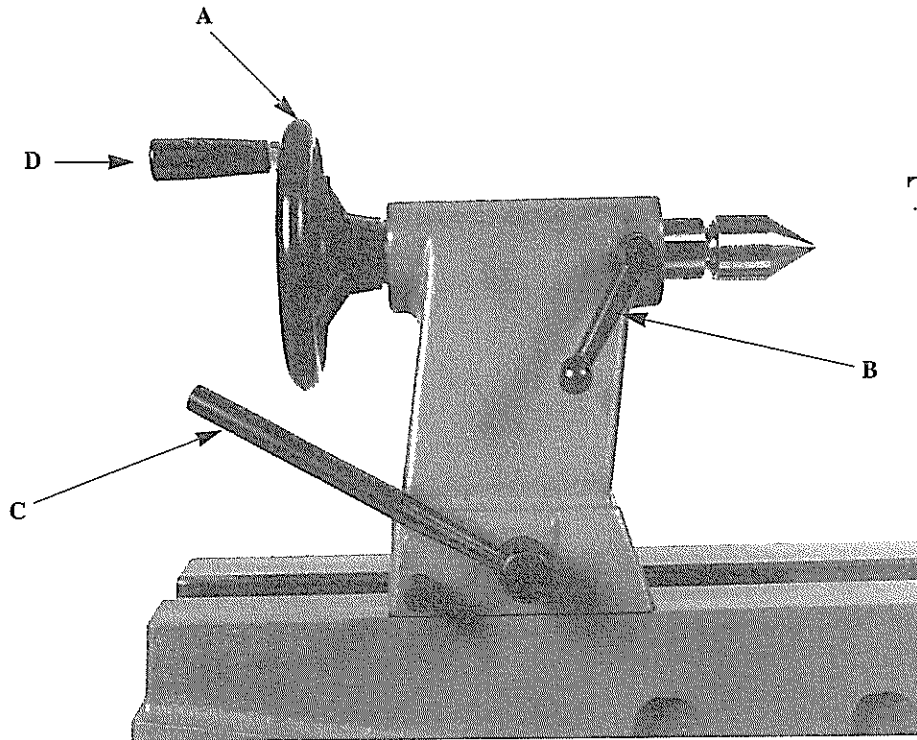

Fig 3
14. The tailstock should slide freely with the side mounted locking lever on its rest. If not, slightly undo the nut located between the lathe bed bars beneath the tailstock. The tailstock should lock the lever raised approximately 45°. Fit the handwheel knob (See D Fig 3 on Page 12). Your machine is now complete and ready to use.
TAILSTOCK HANDWHEEL (A Fig 3)
TAILSTOCK SPINDLE LOCK (B Fig 3)
(C Fig 3)